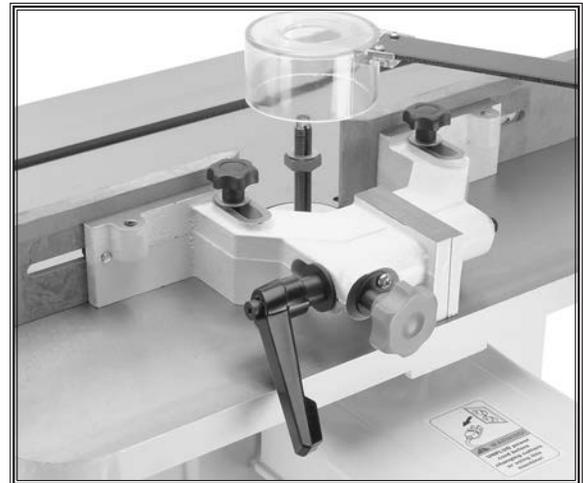

Figure 21. Fence mount lock handle and adjustment knob.
1. Loosen fence mount lock handle shown in **Figure 21**.
2. Adjust position of fence by turning adjustment knob shown in **Figure 21**.